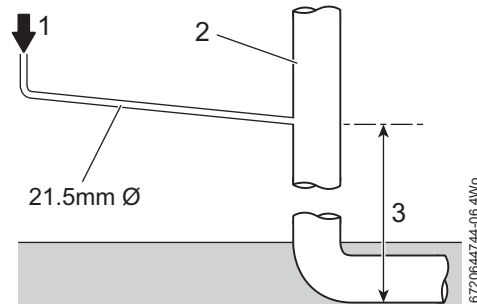

Fig. 13 Disposal to soil vent stack
**Continued - Key to condensate illustrations, figures 13,14, 15 & 16**